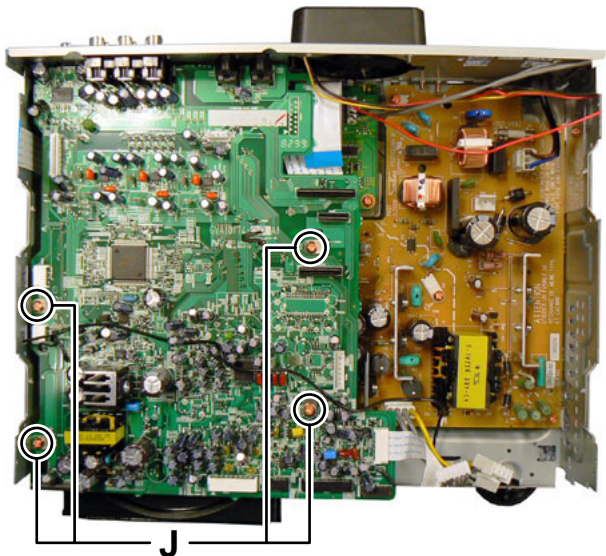

Fig.13
- (6) Remove the four screws **J** attaching the Main board. (see Fig.13)
3.2.4 Removing the spindle motor assembly (See Fig.13)